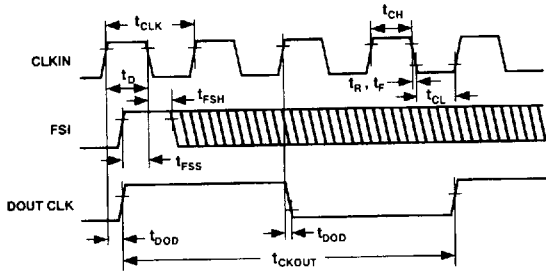

Figure 17. Frame Sync Input (FSI) Timing (FIR Filter Output Mode)
Referring to Figure 17, the FSI pin is sampled on the falling edge of CLKIN. The FSI pin must adhere to several conditions depending on which mode is being used as follows:
3. FSI must be synchronized to CLKIN to meet the timing requirements outlined in Figure 17.
The FSI pin is useful when multiple AD776s are used together and must be synchronized. In such a case, a single pulse may be applied to the FSI inputs of the converters. This causes the internal "state-machine" of the AD776 to be reset. Thus, the internal clocking for both the analog and digital circuitry of each individual converter is synchronized and in-phase. In the case of a single FSI pulse, it must still adhere to the timing outlined in Figure 17.